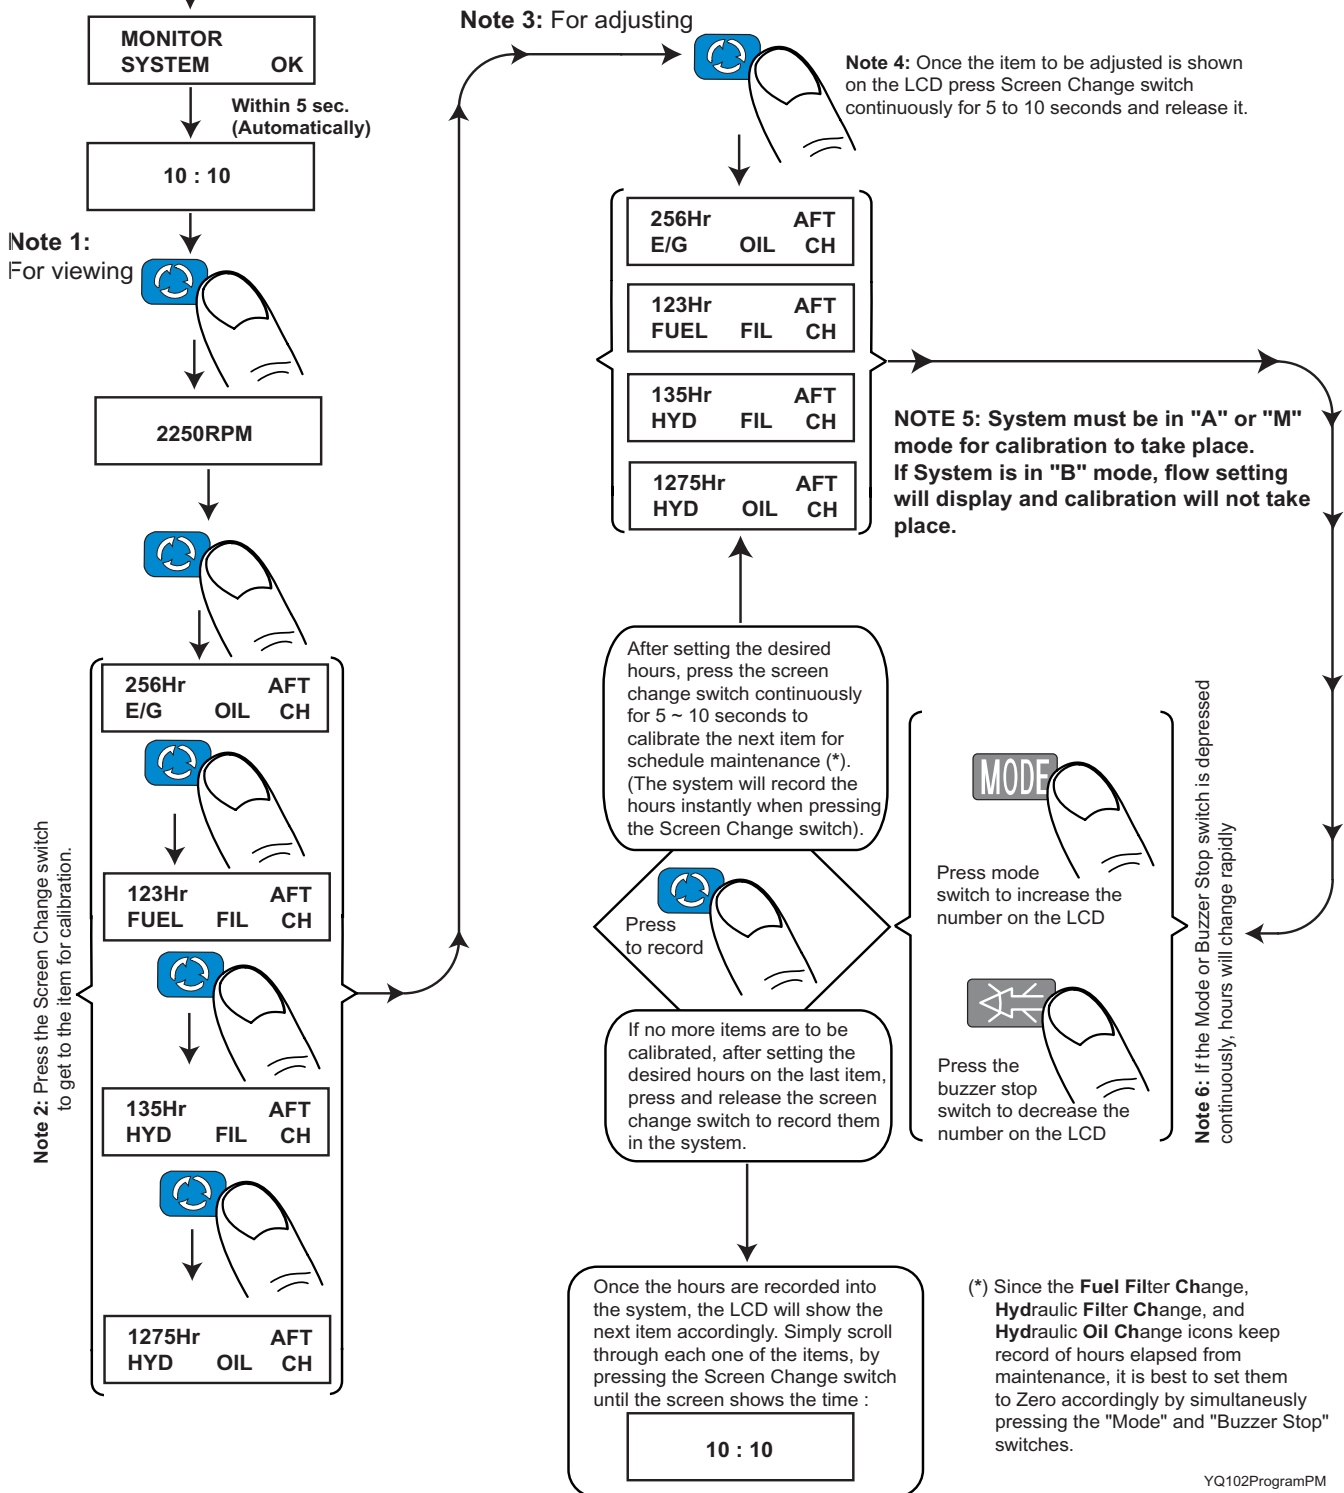

FIGURE 2.12A
9. Preventive Maintenance Program – FIGURE 2.12A